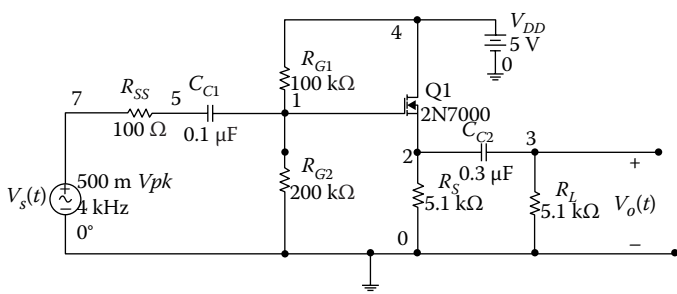

FIGURE 7.43
Use the Analog Discovery board to determine (1) the magnitude response of the circuit shown in Figure 7.43, (2) midband gain, and (3) low cut-off frequency.
Use a breadboard to build the circuit shown in Figure 7.43. Connect the AWG1 (yellow wire) to node 7 of the circuit. Also, connect the scope channel 1 positive (orange wire) to node 7. In addition, connect the scope channel 1 negative (orange-white wire) to node 0. Furthermore, connect the scope channel 2 positive (blue wire) to node 6, and the scope channel 2 negative (blue-white wire) to node 0. Moreover, connect the ground (black wire) to node 0 of the circuit. For the transistor 2N7000, connect the gate of the transistor to node 1, drain to node 4, and the
source to node 2 of Figure 7.43. In addition, connect the +5 V dc power supply (red wire) to node 4.